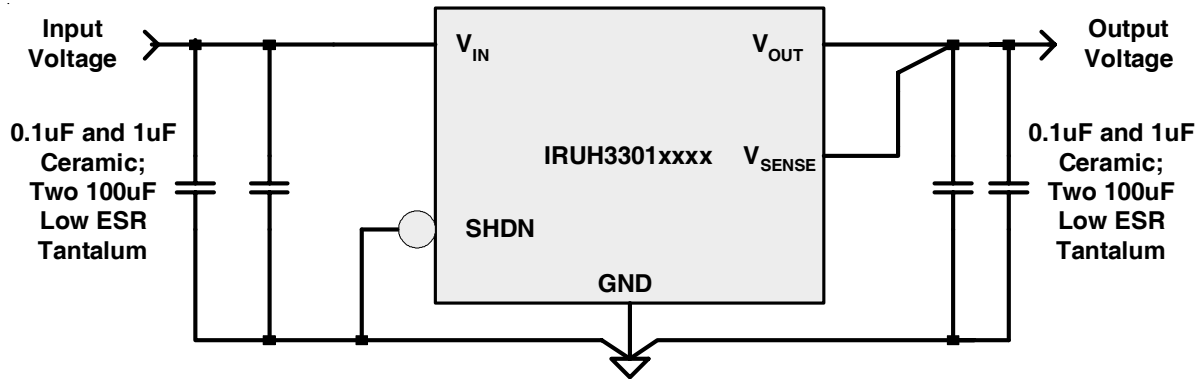

Fig. 1. Typical Regulator Circuit; Note the SHDN Pin is hardwired in the “ON” position.
- ① Connected as shown in Fig.1 and measured at the junction of V_{OUT} and V_{SENSE} Pins.
② Under normal closed-loop operation. Guaranteed by design. Not tested in production.